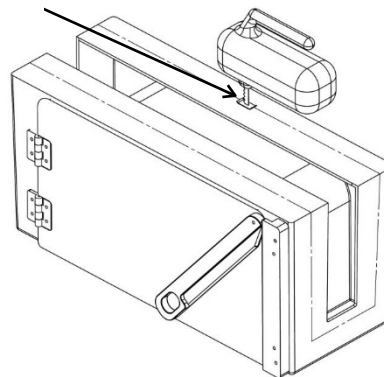

FIGURE 5
8. Cut the CleanCut Tub Door™ to fit the cut-out tub opening using a jigsaw and routing tool. (Figure 5). Fasten Velcro-stripping on both sides of the jigsaw to prevent making any unwanted marks on the CleanCut Tub Door™. It is important that a 2" blade is used to cut out the CleanCut Tub Door™ so as to prevent accidentally cutting through the top of the CleanCut Tub Door™. Snap off any excess length on the stock jigsaw blade beyond 2".